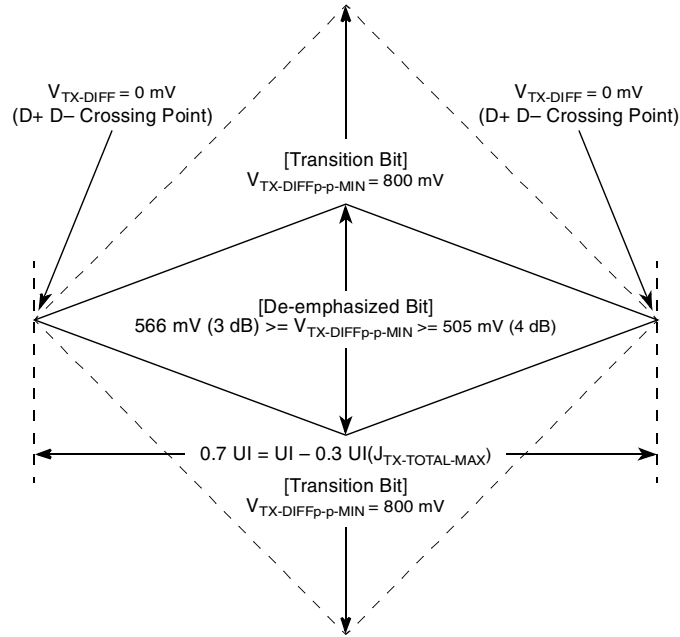
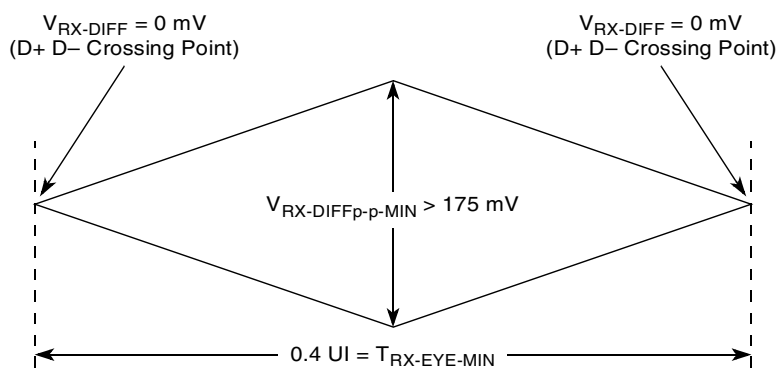
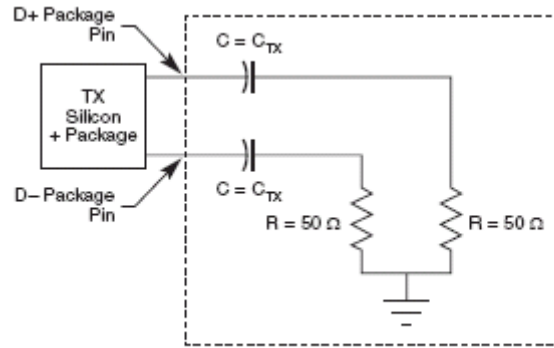

Figure 27. Minimum Transmitter Timing and Voltage Output Compliance Specifications
Figure 28. Minimum Receiver Eye Timing and Voltage Compliance Specification
Figure 29. Compliance Test/Measurement Load
2. Specified at the measurement point into a timing and voltage compliance test load as shown in Figure 29 and measured over any 250 consecutive TX UIs. (Also refer to the transmitter compliance eye diagram shown in Figure 27.)
4. The transmitter input impedance shall result in a differential return loss greater than or equal to 12 dB and a common mode return loss greater than or equal to 6 dB over a frequency range of 50 MHz to 1.25 GHz. This input impedance requirement applies to all valid input levels. The reference impedance for return loss measurements is 50 Ω to ground for both the D+ and D- line (that is, as measured by a vector network analyzer with 50- Ω probes, see Figure 29). Note that the series capacitors, C_{TX} , is optional for the return loss measurement.
5. Measured between 20%–80% at transmitter package pins into a test load as shown in Figure 29 for both $V_{\text{TX-D+}}$ and $V_{\text{TX-D-}}$.
The TX eye diagram in Figure 27 is specified using the passive compliance/test measurement load (Figure 29) in place of any real PCI Express interconnect + RX component. There are two eye diagrams that must be met for the transmitter. Both diagrams must be aligned in time using the jitter median to locate the center of the eye diagram. The different eye diagrams differ in voltage depending on whether it is a transition bit or a de-emphasized bit. The exact reduced voltage level of the de-emphasized bit is always relative to the transition bit.
2. Specified at the measurement point and measured over any 250 consecutive UIs. The test load in Figure 29 should be used as the RX device when taking measurements (also refer to the receiver compliance eye diagram shown in Figure 28). If the clocks to the RX and TX are not derived from the same reference clock, the TX UI recovered from 3500 consecutive UI must be used as a reference for the eye diagram.
4. The receiver input impedance shall result in a differential return loss greater than or equal to 15 dB with the D+ line biased to 300 mV and the D– line biased to –300 mV and a common mode return loss greater than or equal to 6 dB (no bias required) over a frequency range of 50 MHz to 1.25 GHz. This input impedance requirement applies to all valid input levels. The reference impedance for return loss measurements for is 50 Ω to ground for both the D+ and D– line (that is, as measured by a vector network analyzer with 50- Ω probes, see Figure 29). Note that the series capacitors, C_{TX} , is optional for the return loss measurement.
The RX eye diagram in Figure 28 is specified using the passive compliance/test measurement load (Figure 29) in place of any real PCI Express RX component. In general, the minimum receiver eye diagram measured with the compliance/test measurement load (Figure 29) is larger than the minimum receiver eye diagram measured over a range of systems at the input receiver of any real PCI Express component. The degraded eye diagram at the input Receiver is due to traces internal to the package as well as silicon parasitic characteristics which cause the real PCI Express component to vary in impedance from the compliance/test measurement load. The input receiver eye diagram is implementation specific and is not specified. RX component designer should provide additional margin to adequately compensate for the degraded minimum Receiver eye diagram (shown in Figure 28) expected at the input receiver based on an adequate combination of system simulations and the return loss measured looking into the RX package
The reference impedance for return loss measurements is $50\ \Omega$ to ground for both the D+ and D- line (that is, as measured by a Vector Network Analyzer with $50\ \Omega$ probes—see Figure 29). Note that the series capacitors, $C_{PEACCTX}$, are optional for the return loss measurement.
The AC timing and voltage parameters must be verified at the measurement point, as specified within 0.2 inches of the package pins, into a test/measurement load shown in Figure 29.